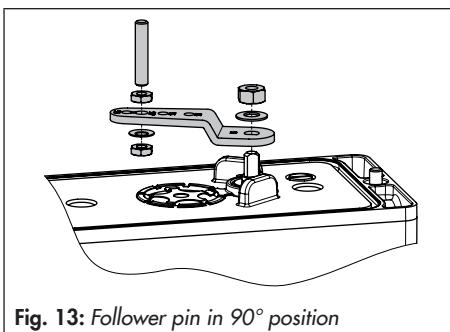

Fig. 13: Follower pin in 90° position
1. Fasten the adapter block (1) to the actuator's NAMUR interface using the four fastening screws (2).
2. Mount the follower wheel (3) onto the actuator shaft. Use the matching shaft adapter (see Table 6 on page 24).
3. Place the adapter bracket (4) onto the adapter block (1) and fasten it using the fastening screws (5).
4. Insert and fasten the follower pin in the 90° position on the positioner's lever (see Fig. 13). Only use the longer follower pin included in the mounting kit.
5. Align the positioner on the adapter bracket (1) in such a way that the follower pin engages into the actuator's follower wheel (3).
6. Fasten the positioner onto the adapter bracket (4) using the fastening screws (6).
2. Mount the follower wheel (3) onto the actuator shaft. Use the matching adapter (see Table 6 on page 24).
4. Insert and fasten the follower pin into the 90° position on the positioner's lever (see Fig. 13 on page 56).
7. Mount the Type 3710 Reversing Amplifier (7) together with the two guide bush-